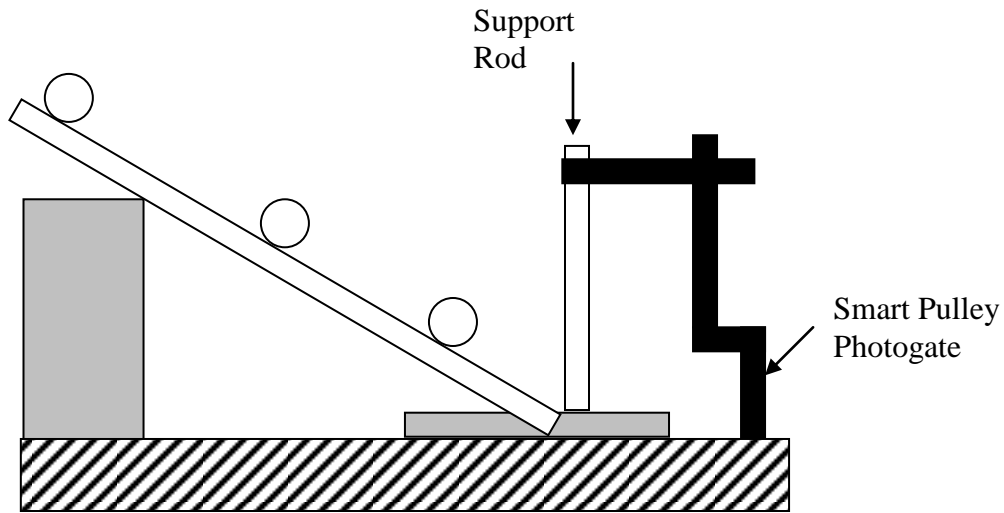
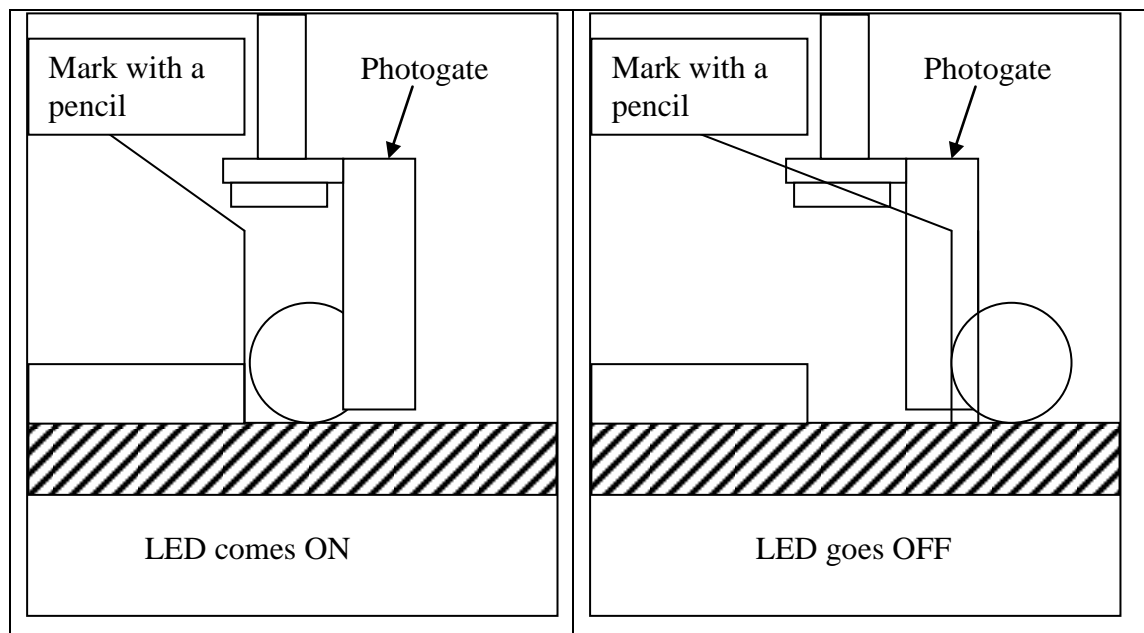

Figure 6.2: Equipment Setup
Figure 6.3: Measuring  $\Delta d$ .
- 1- Set up the apparatus as shown in Fig. 6.2. Attach the photogate to your computer, insert the software disc, and turn on the computer.
- 2- Place a piece of paper on the table, under the photogate. Remove the ramp, and use it to push the ball slowly through the photogate, as shown in Fig. 6.3. Determine the point at which the ball first triggers the photogate timer-this is the first point at which the LED turns ON- and mark it on the paper. Then determine the point at which the ball last triggers the timer, and mark this point also. Measure the distance between as  $\Delta d$ . Replace the ramp as in Fig. 6.2.